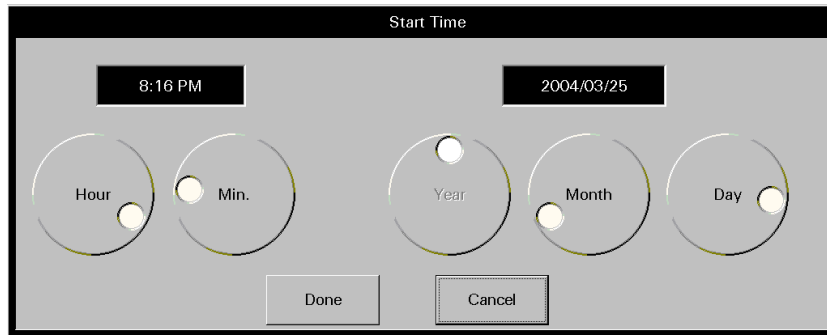

FIGURE 9-15 Start Time Dialog Box
1. Select the Start Time text box. The Start Time dialog box (shown in FIGURE 9-15) is displayed.